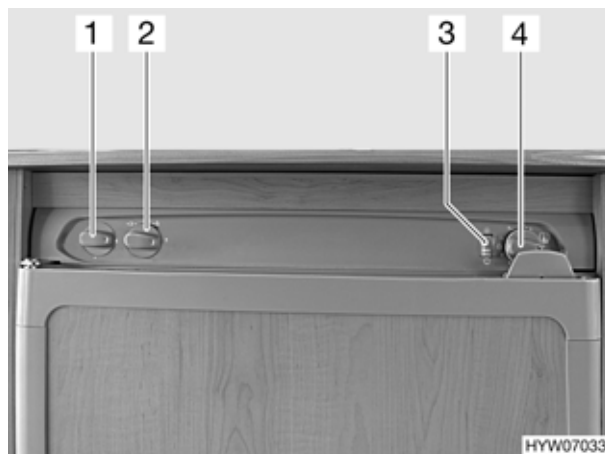

Fig. 132 Operating controls for refrigerator (variant 3)
- Set the energy selector switch (Fig. 132,1) to "GAS".
- Set the control knob (Fig. 132,5) to maximum power. Gas supply is open. Ignition will take place automatically. The "GAS" operating indicator (Fig. 132,2) lights up yellow. A ticking sound can be heard until ignition has been completed successfully.
- Set energy selector switch (Fig. 132,1) to "O". The appliance is switched off.
- Set energy selector switch (Fig. 132,1) to "240 V". The green "240 V" operating indicator (Fig. 132,3) lights up.
- Use control knob (Fig. 132,5) to adjust refrigerating temperature.
- Set energy selector switch (Fig. 132,1) to "12 V". The green "12 V" operating indicator (Fig. 132,4) lights up.